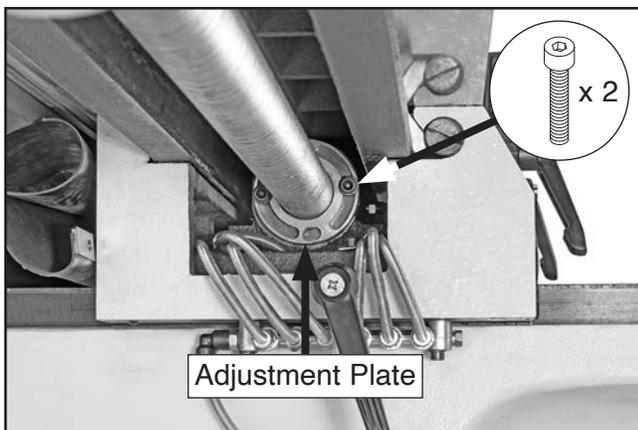

Figure 54. Location of X-axis leadscrew nut cap screws and adjustment plate.
2. Loosen (2) cap screws on X-axis leadscrew nut accessed from underneath left side of table (see **Figure 54**).
3. Rotate adjustment plate on leadscrew nut (see **Figure 54**) in small increments, then check amount of backlash.